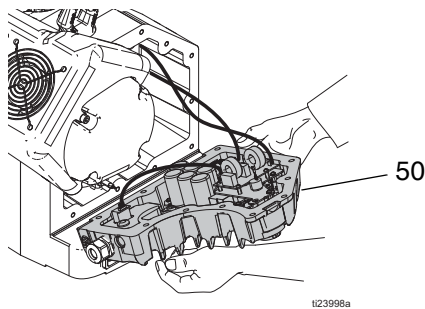

FIG. 31: Tilt Electronics Cover
4. Carefully tilt the electronics cover (50) down. See FIG. 31, page 28.